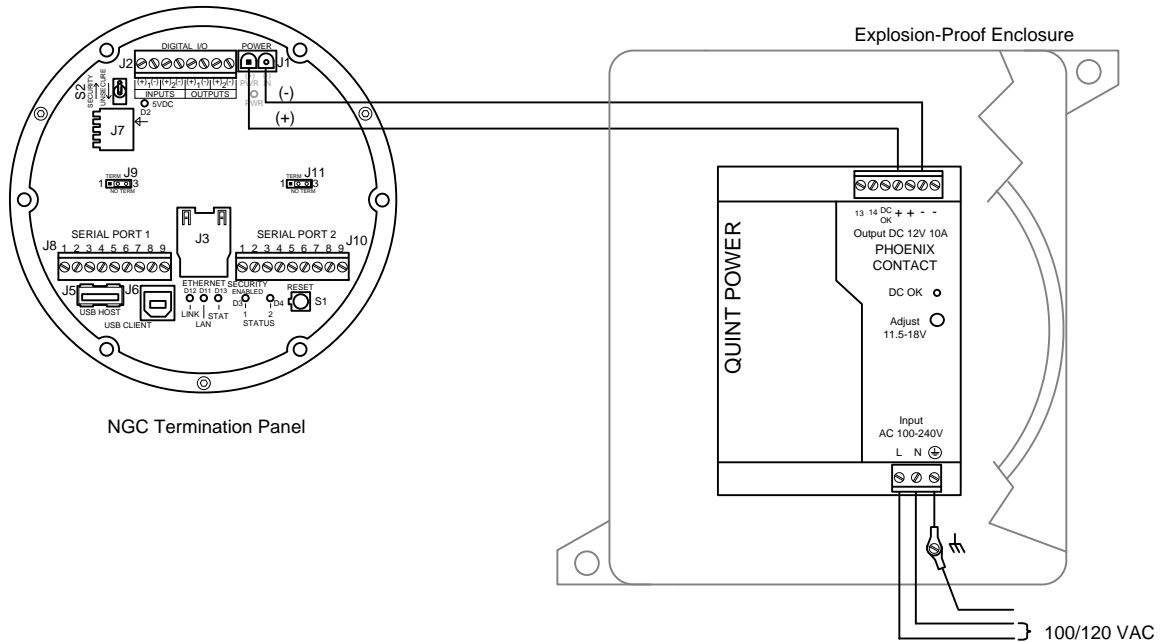

Figure 3-68 Explosion-Proof AC Power Supply Wiring Instructions
- 5) Using the wiring instructions in Figure 3-68, make field connections from the 115 VAC hot and neutral or the two hot wires for 230 VAC to TB1 terminal 5A and terminal 6A on the power supply.
- 7) Remove the J1 connector from the NGC termination panel. Using the wiring instructions in Figure 3-68, make field connections from the power supply wire from F1 terminal B to J1 connector (+) pin and connect the ground wire TB1 terminal 1A to J1 connector (-) pin. Do not re-insert J1 connector to the termination board.